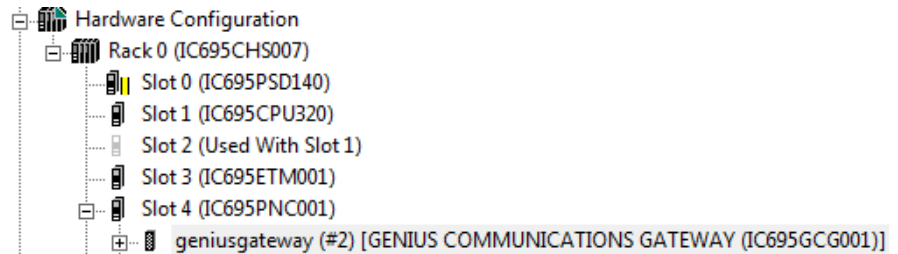

Figure 14: Hardware Configuration Expanded Tree
7. **geniusgateway...** now appears (Figure 14) as an IO device in the Hardware Configuration tree under the PNC001.